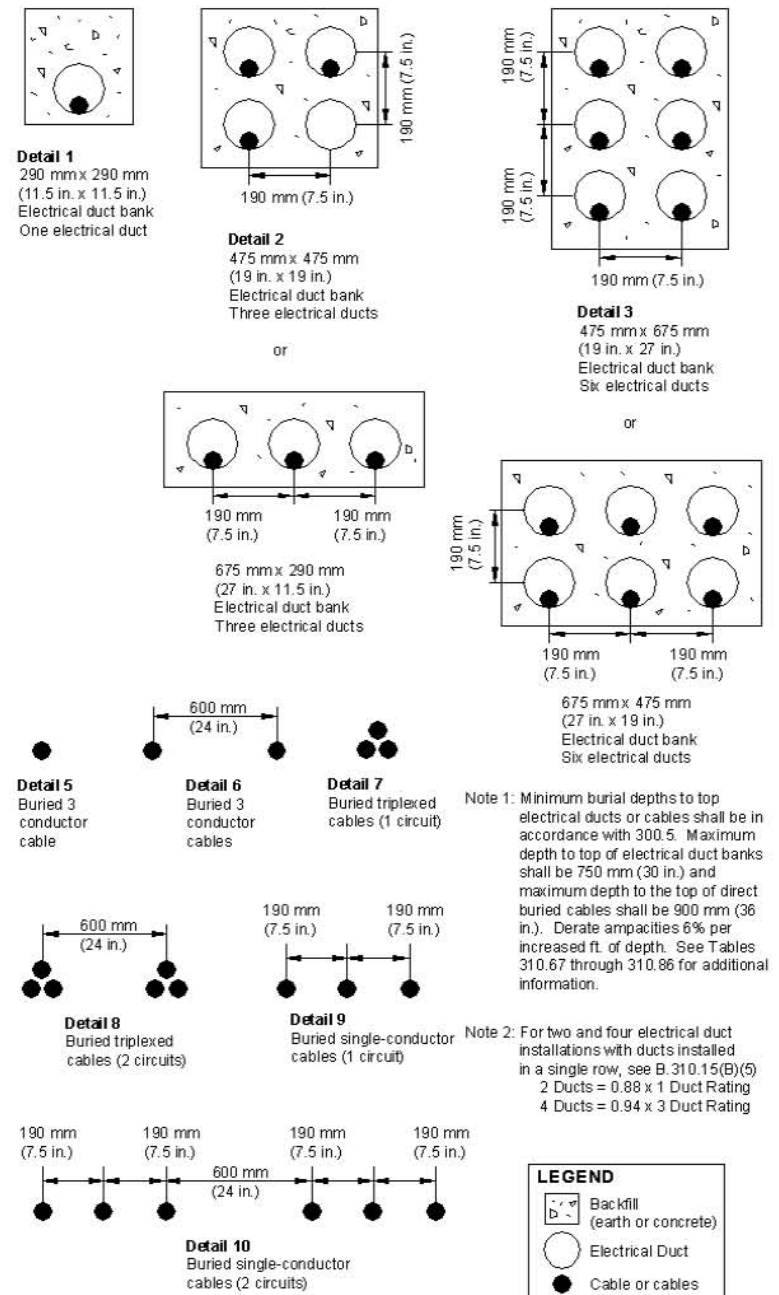

Figure B.310.2 Cable installation dimensions for use with Table B.310.5 through Table B.310.10.
**Table B.310.7 Ampacities of Three Single Insulated Conductors, Rated 0 Through 2000 Volts, in Underground Electrical Ducts (Three Conductors per Electrical Duct) Based on Ambient Earth Temperature of 20°C (68°F), Electrical Duct Arrangement per Figure B.310.2, Conductor Temperature 75°C (167°F)**